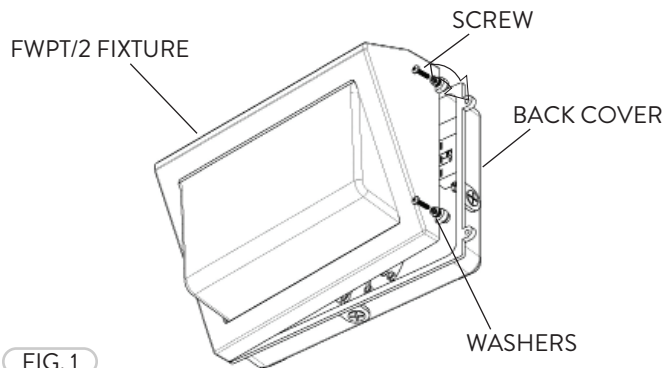
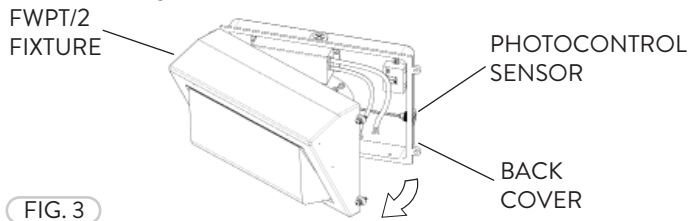
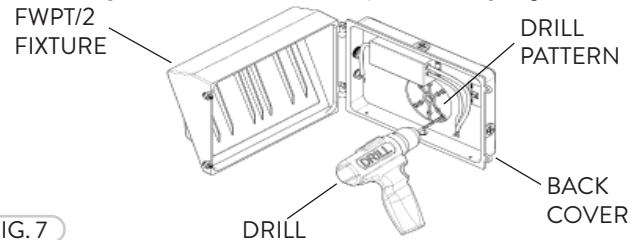

FIG. 1
FIG. 3
FIG. 7
① The Selectable CCT is equipped on selected models. If the CCT needs to be adjusted, loosen the Screws (2) at the side of the FWPT/2 fixture and open the Back Cover. The Screws and Washers do not have to be removed (Fig. 1).
- 1 The pre-installed Photocontrol Sensor can be bypassed easily if it is not needed (Fig. 3). Loosen the Screws and open the Back Cover (Refer to Fig. 1).
- 1 Prior to Junction Box installation, loosen the Screws (2) on the side of the FWPT/2 fixture to open the Back Cover to have access to the fixture Wiring (Refer to Fig. 1). The Back Cover of the FWPT/2 has a raised drill pattern on the inside that can be drilled through for the Junction Box. Align the desired Junction Box (not included) and drill holes to align with the Junction Box of your choosing (Fig. 7).